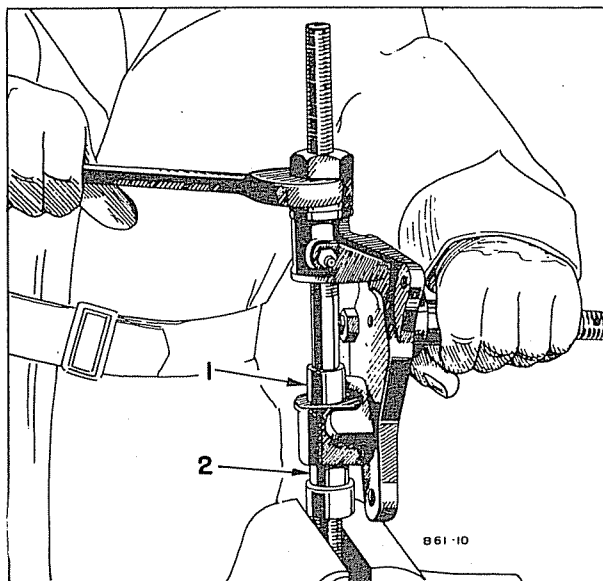

Fig. 5—Removing King Pin Bushing (Reverse Elliott Type Axle).
- (4) Remove the king pin locking screw or pin.
- (5) Remove king pin oil seal plug (steel disc) by driving a punch down into it and prying the seal up and out of the steering knuckle.
- (6) Remove king pin, using tool DD.1155.
- (7) Remove king pin bushings. See Figure 5.
- (4) Remove king pin locking pin.
- (5) Remove king pin oil seal by unscrewing grease nipple.
- (6) Remove king pin, using tool DD-1155 and thrust bearing. Examine thrust bearing for wear, and replace if necessary.
- (7) Remove king pin bushings, see Figure 5.